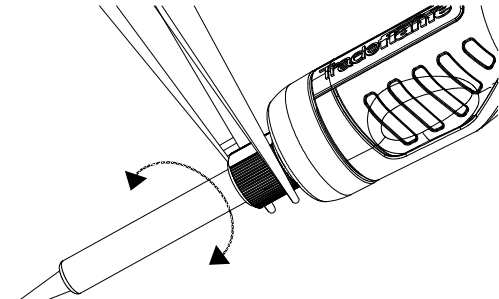

Fig. 6
1. Loosen the sleeve - counter clockwise (Fig. 6)
3. Tighten the sleeve securely. - clock wise (Fig. 6)